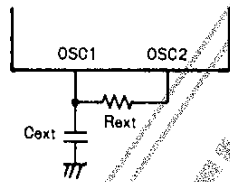

Fig. 2 2-Pin RC Oscillation Circuit
| 2-Pin RC Oscillation | C_{ext} | OSC1, OSC2: $V_{DD} = 4$ to 5.5V, Fig. 2 | | 220±5% | | pF |
| | R_{ext} | OSC1, OSC2: $V_{DD} = 4$ to 5.5V, Fig. 2 | | 6.8±1% | | kΩ |
| | C_{ext} | OSC1, OSC2: Fig. 2 | | 270±5% | | pF |
| | R_{ext} | OSC1, OSC2: Fig. 2 | | 15±1% | | kΩ |
| 2-Pin RC Oscillation | I_{DDOP} (1) | Operation mode, Output Nch Tr OFF, Port = V_{DD} V_{DD} : $V_{DD} = 4$ to 5.5V, Fig. 2 $f_{osc} = 750 \text{kHz}$ typ | | 2 | 5 | mA |
| | I_{DDOP} (2) | V_{DD} : Fig. 2 $f_{osc} = 350 \text{kHz}$ typ | | 1.5 | 4.5 | mA |
| Oscillation Frequency | f _{MOSC} (1) | OSC1, OSC2: V _{DD} = 4 to 5.5V, Fig. 2, C _{ext} = 220 pF±5%, R _{ext} = 6.8 kΩ±1% | 515 | 750 | 1156 | kHz |
| | f _{MOSC} (2) | OSC1, OSC2: Fig. 2, C _{ext} = 270 pF±5%, R _{ext} = 15 kΩ±1% | 222 | 350 | 609 | kHz |